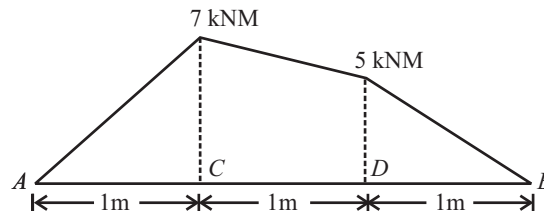

Fig 12.33
Q.24: The bending moment diagram (BM_D) of a simple supported beam is given as shown in fig 12.33. Calculate the support reactions of the beam. (Dec-00)